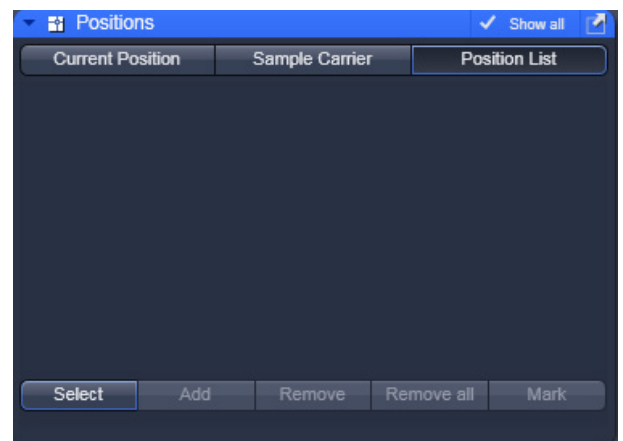

Fig. 298 Position List panel
- Click on the **Positions List** tab to open the **Position List** panel (Fig. 298). Click on any other tab to leave the panel.